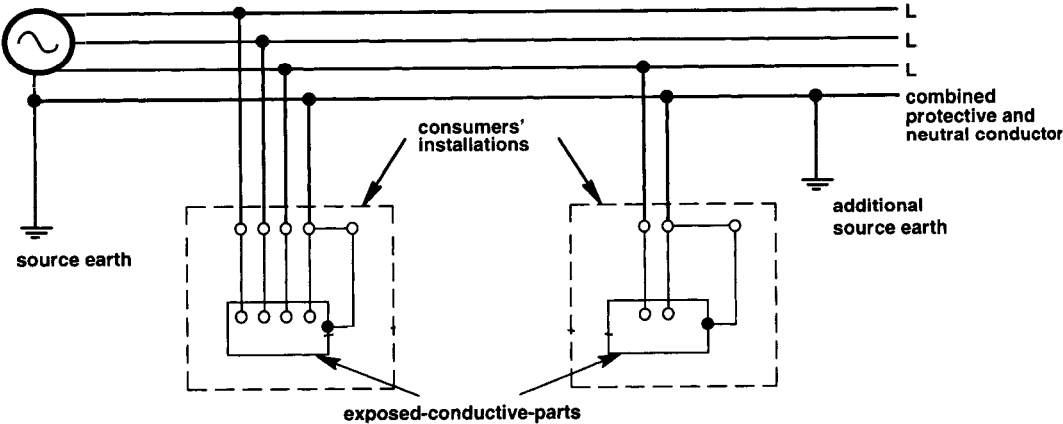

Fig A-1 – TN-C-S (PME) system
**TN-C-S system:** Both TN-C and TN-S configurations are used in different parts of the system. This configuration is also known as '**Protective Multiple Earthing (PME)**'. (Figure A-1) The TN-C-S system is the most common system worldwide, used in the Americas,